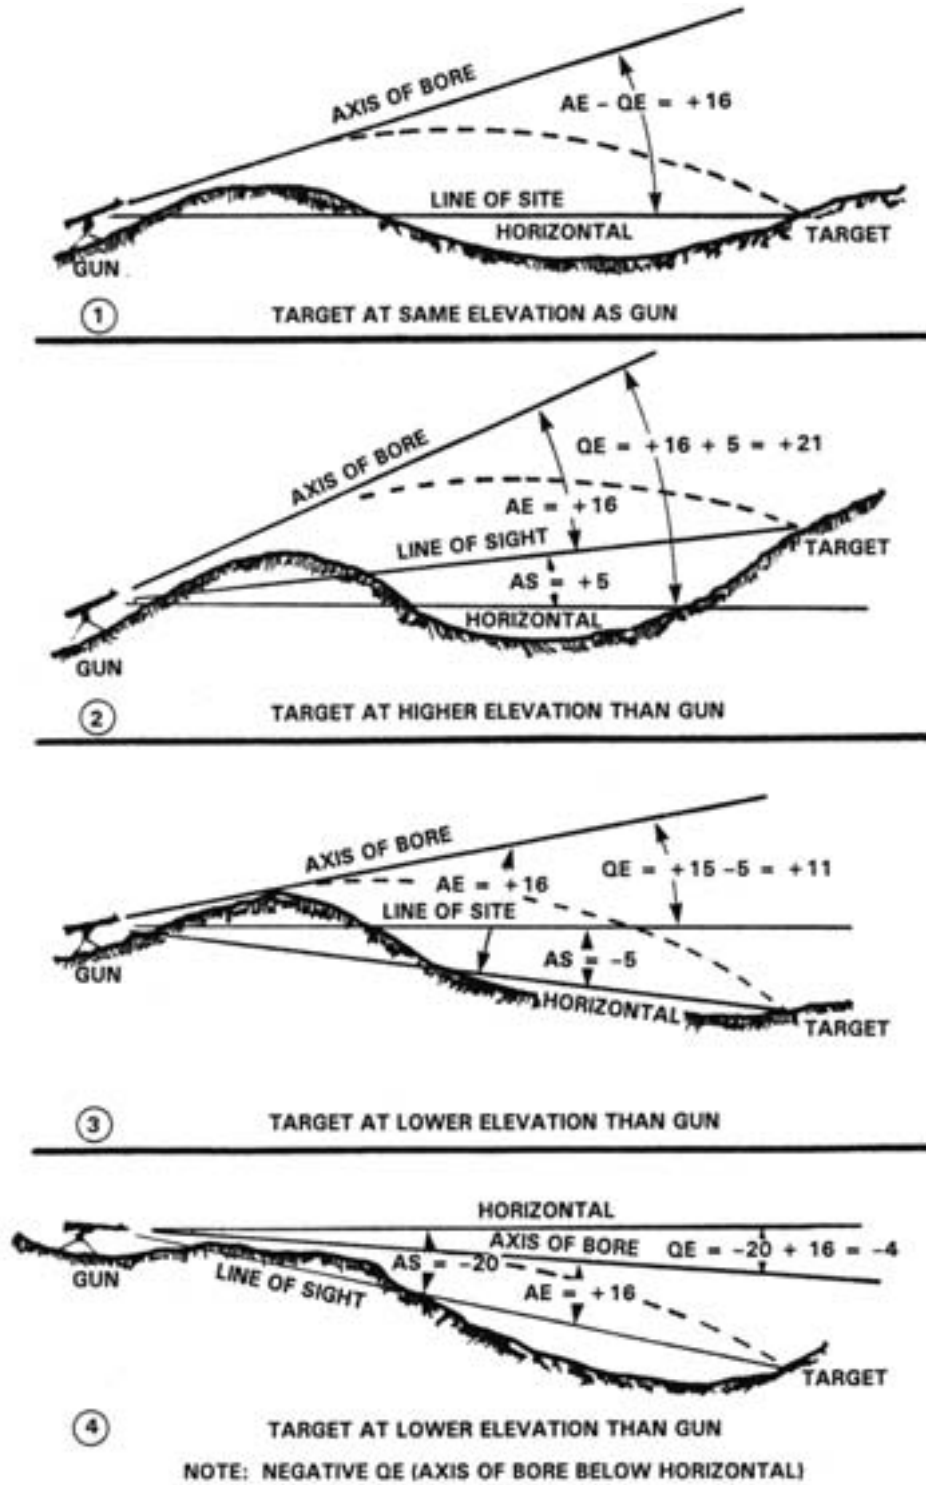

Figure 6-44. Angles of Elevation, Angle of Site, and Quadrant Elevation.
(1) **Angle of elevation (A&E).** A straight line between the chamber of the gun and the target is called the line of sight (see figure 6-44). The bullet begins its flight in prolongation of the axis of the bore. However, because of the action of gravity and air resistance, it falls in a gradual curve. As a result, it is necessary to elevate the axis of the bore above the line of sight through which the axis of the bore is raised so that the bullet will carry to the target is called the
(2) **Angle of site (AS).** When the gun and target are not at the same elevation, an additional angle must be taken into consideration. This angle is the vertical angle formed by the line of site and a horizontal line through the chamber of the gun. It is called the angle of site. When the target is at a higher elevation than the gun, the angle of site is positive (plus). When the target is lower than the gun, the angle of site is negative (minus). See figure 6-44.
(3) **Quadrant elevation (QE).** The angle of quadrant elevation is the angle formed by the line extending through the axis of the bore toward the target and a horizontal line through the gun (see figure 6-44). The quadrant elevation is positive (plus) whenever the gun
(a) *Quadrant of Elevation When Gun and Target are on the Same Horizontal Plane.* The target is a range of 1,000 meters and on the same horizontal plane as the gun. Therefore, elevate the gun to form an angle of 16 mils with the line of site (since +16 mils is the angle of elevation for a range of 1,000 meters). (See fig. 6-44 [1].) The angle of sight is 0, because the line of site coincides with the horizontal; therefore, the quadrant elevation is +16 mils (the algebraic sum of the angle of elevation [+16] and the angle of site [0]).
(b) *Quadrant of Elevation When the Target is Higher Than the Gun.* The target is at a range of 1,000 meters and at greater elevation than the gun (see figure 6-44 [2]). To hit the target, fire the gun at an angle equal to the angle of elevation for the range (+ 16 mils) plus the angle of site. The angle of site is +5 mils; therefore, lay the gun with a quadrant elevation of +16 and +5, or a total of +21 mils.
(c) *Quadrant of Elevation When the Target is Lower Than the Gun.* The target is at a range of 1,000 meters but at a lesser elevation than the gun (see figure 6-44 [3]). To hit the target, fire the gun at an angle equal to the angle of elevation for the range (+ 16 mils) minus the angle of site. The angle of site is -5 mils; therefore, lay the gun with a quadrant elevation of +16 and -5, or a total of +11 mils. Figure 6-44 illustrates a case where the target is at a range of 1,000 meters and the angle of site is -20 mils. Since the angle of elevation is +16 mils, the quadrant elevation is the combination of +16 mils and -20, or an algebraic sum of -4 mils. Negative or minus angles of quadrant elevation are not common, but may be encountered on certain types of terrain.